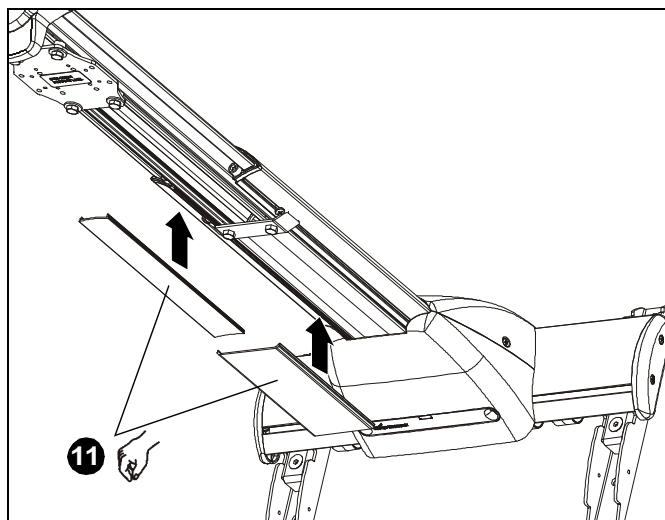

Figure 33
11. Replace removed cable management covers (if necessary). Insert one side of cover into groove and press firmly on the cover on the other side until it snaps into the other groove. (See Figure 33)